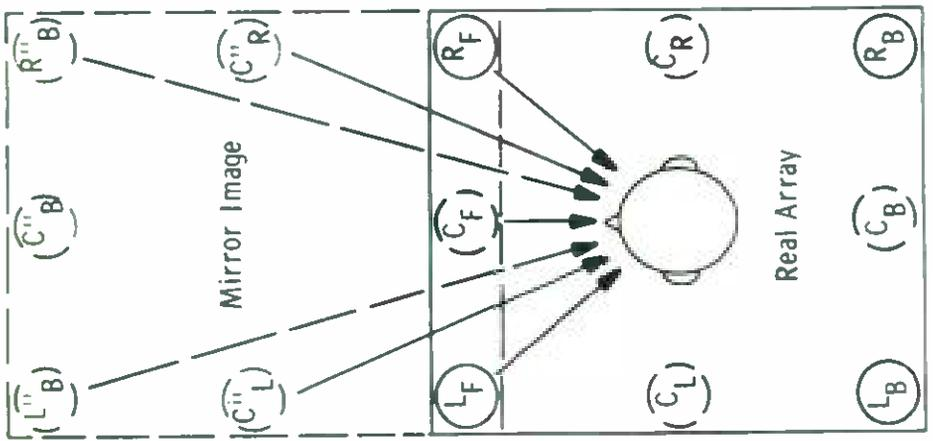

Fig. 2. Display of quadraphonic images in stereo playback.
2. The cardioid fusion technique may be used if your room is less than ideal; set up as in Fig. 2 the sound will be picked up only *on* pattern. You may have to do a little adjusting here, too. Is it necessary to warn you about phase at this point? I had a pair of AKG G-12 variable-pattern mics with which a great deal of my work was done. Somehow the shop technician didn't observe polarity or color code and a red and yellow wire got switched. It took me some time to figure out why my center channel never worked properly.
Compatibility is of special importance to the broadcaster. There are many levels to the compatibility question. One concerns the compatibility with present playback equipment. Another concerns the level of modulation on the disc and whether it can be broadcast without readjustment of console gain settings. The SQ disc scores high in both respects; it can be used as any conventional stereo disc. Equally important is the quality of reception of SQ broadcast by the listener with conventional stereo or monophonic receivers. Unlike systems announced by other experimenters in the field, the "SQ" record is an excellent stereo record as well, as can be seen in Fig. 2.
Fig. 2 is a graphical representation of the image placement a listener would hear when playing an SQ record on conventional stereo equipment. As the drawing shows, images are placed as though the room were folded forward in a mirror representation of the original array. The original left-front, center-front and right-front signals appear in the usual place, *with no dilution of separation*. The center-left and center-right signals are folded in slightly from the two loudspeakers, and the two back signals appear slightly in from the center signals. The total effect of these real and virtual images is to produce
This is the typical output of a four-channel encoder of the generalized type shown in Fig. 2.